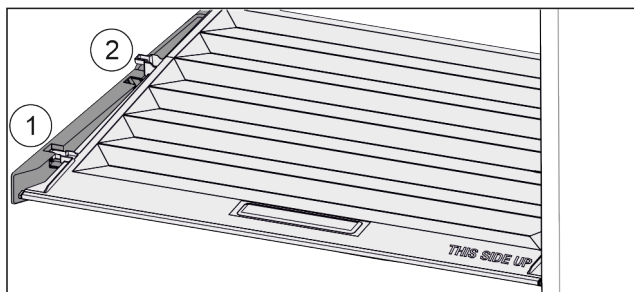

Fig. 84
- ▶ Pull the lid up at the front in the retaining parts to the opening Fig. 84 (1).
- ▶ Lift from the back and pull it up and out Fig. 84 (2).